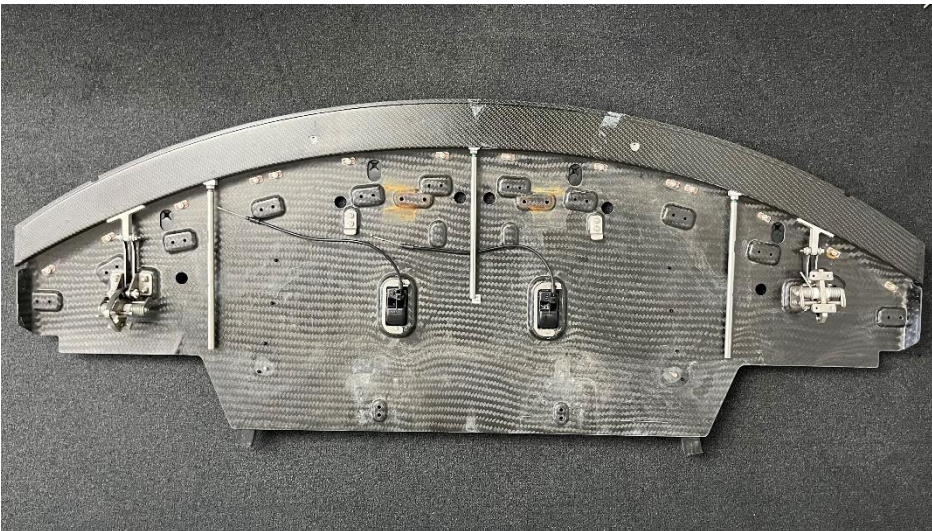

Figure 11
- b. All 16 (aramid pads) are **not present** (figures 11 and 12): Perform **work procedures B and C**.
6. Carefully pull apart front diffuser upper and lower parts (figure 11).